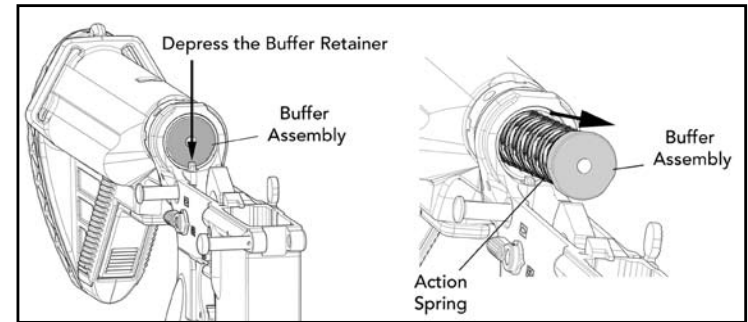

Fig. 34 – Removing Buffer Assembly
- a. Depress the buffer detent with the tip of the piston rod and remove the buffer and action spring from the receiver extension (buffer tube) (Fig. 34).